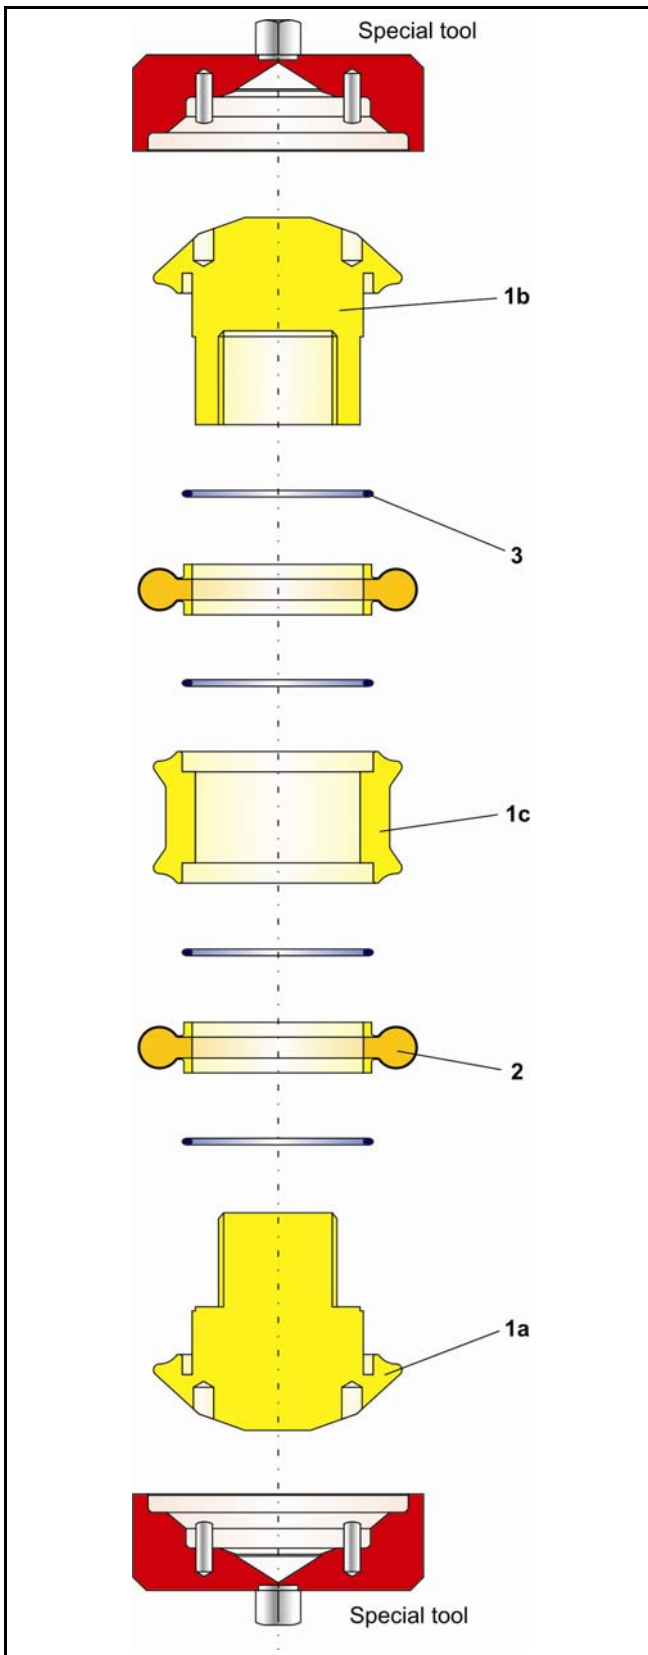

Fig. 6 - Detail drawing of TWIN 3 pig
- Check the condition of the sealing lips (2).
- If the sealing lips (2) are damaged or worn, replace the sealing lips (2) and the O-rings (3).
- Replace the sealing lips (2) and O-rings (3) with new parts.
- Assemble the pig according to Fig. 6.